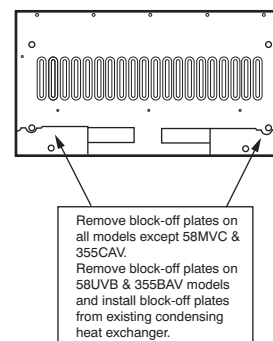

Fig. 4 - Block-off Plates
1. Remove and discard four shipping screws as shown in Fig. 4.
2. Remove and discard installer labels as shown in Fig. 4.